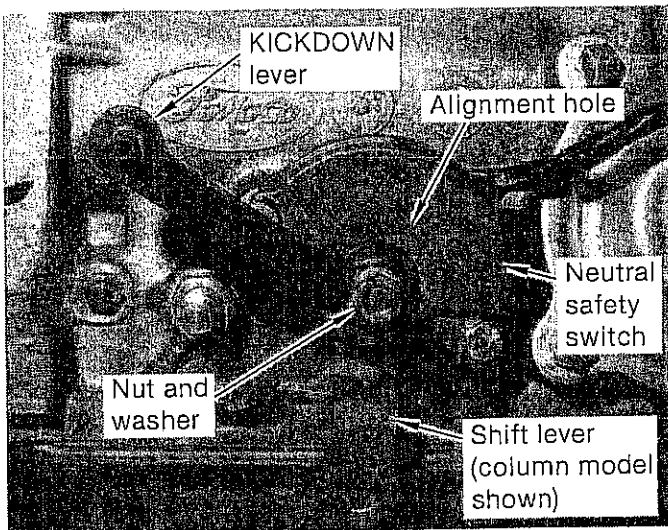
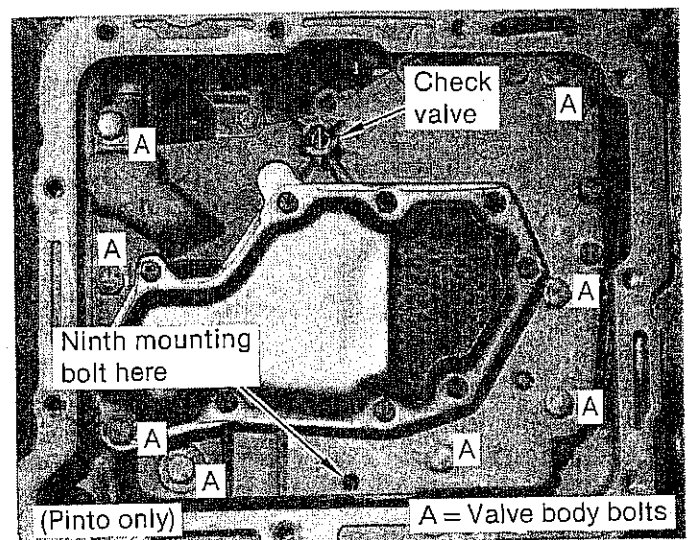

FIGURE 3
FIGURE 4A
STEP 4. Disconnect kickdown linkage lever by removing the nut and washer on lever shaft and prying lever off shaft. Allow kickdown linkage to hang free. (See Fig. 3)
STEP 7. Disconnect battery cables. Unbolt starter motor and tie it up out of the way. Remove any engine to transmission braces or straps. Unbolt neutral safety switch assembly and slide off shift lever. (See Fig. 3) Tie switch up out of the way. Disconnect speedometer cable. Disconnect vacuum modulator hose and remove vacuum line if necessary.
STEP 2. Manually operate the down shift lever. (See Fig. 3). Note how it moves freely with no bind. Observe how the internal linkage engages the valve body. Remove eight or nine 1/4" bolts holding the valve body in place. Remove the valve body and set it aside. Pinto models have a check valve visible next to the oil filter. (See Fig. 4A)